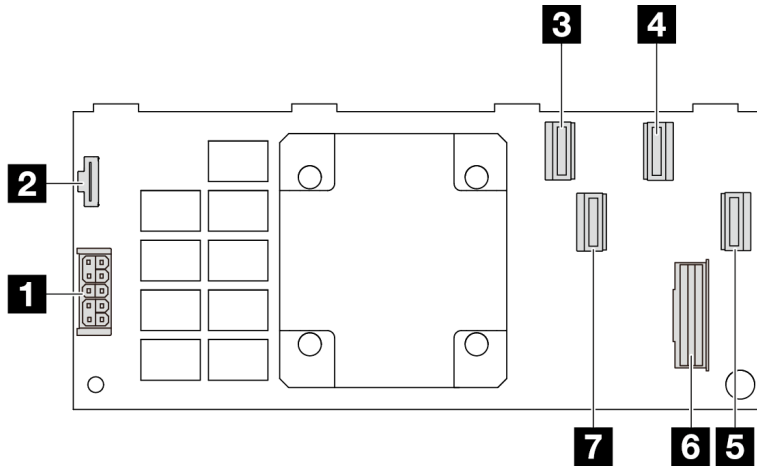

Figure 222. A Gen 4 16i CFF RAID adapter (four port connectors)
- Figure 222 “A Gen 4 16i CFF RAID adapter \(four port connectors\)” on page 257